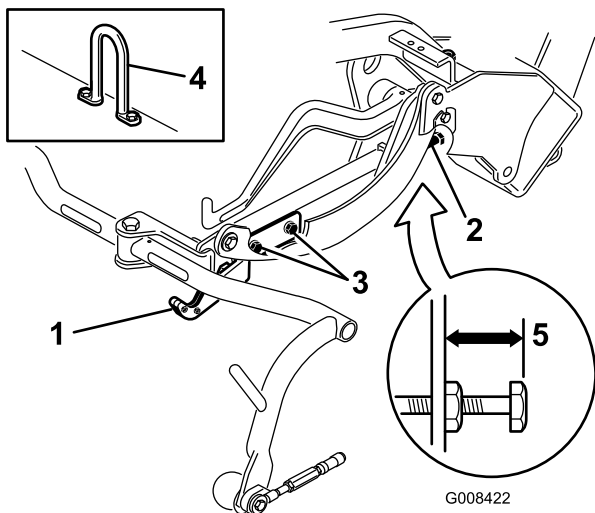

Figure 14
3. On cutting units equipped with a chain link or a straight lift hook (Figure 13 and Figure 14 insets), verify that the distance from the top of the carrier frame adjusting screw to the back of the carrier frame is 22 mm (7/8 inch). If the distance is not 22 mm (7/8 inch), proceed to step 4. If the cutting unit is equipped with an offset lift link (Figure 12), proceed to the next step.
Check the transport height (Figure 13 and Figure 14) and adjust it if required.
4. Loosen the transport plate mounting screws (Figure 13, Figure 14, and Figure 12).
7. If the carrier frames are not at the same height, loosen the jam nut on the carrier frame adjusting screw (Figure 12, Figure 13, and Figure 14). Rotate the screw outward to raise and inward to lower. Tighten the jam nut after you obtain the proper height.